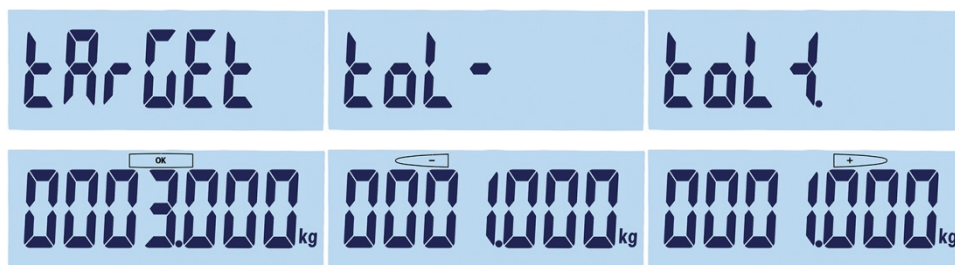

Figure 2-12: Target and Tolerance Displays: Target (left), Low (center) High (right)
- b. Otherwise, the terminal will show “Target” for 1 second, and then display zero weight (Figure 2-12). Select a digit to edit using  to move left and  to move right. Once the required digit is selected and blinking, its value can be increased using  and decreased using . In the example shown in Figure 2-12, the target has been set to 3 kg. Press  to accept this current value as the target and move to the next screen, “Tolerance -”.
3.  appears at upper left in the display. Set the using the direction keys, as indicated in step 2.b, above. In this example (Figure 2-12, center), the low tolerance is set to 1 kg. Press  to move to the next screen, “Tolerance +”.
4.  appears on the top of the screen. Set the using the direction keys, as indicated in step 2.b, above. Here (Figure 2-12, right), the high tolerance is set to 1 kg.